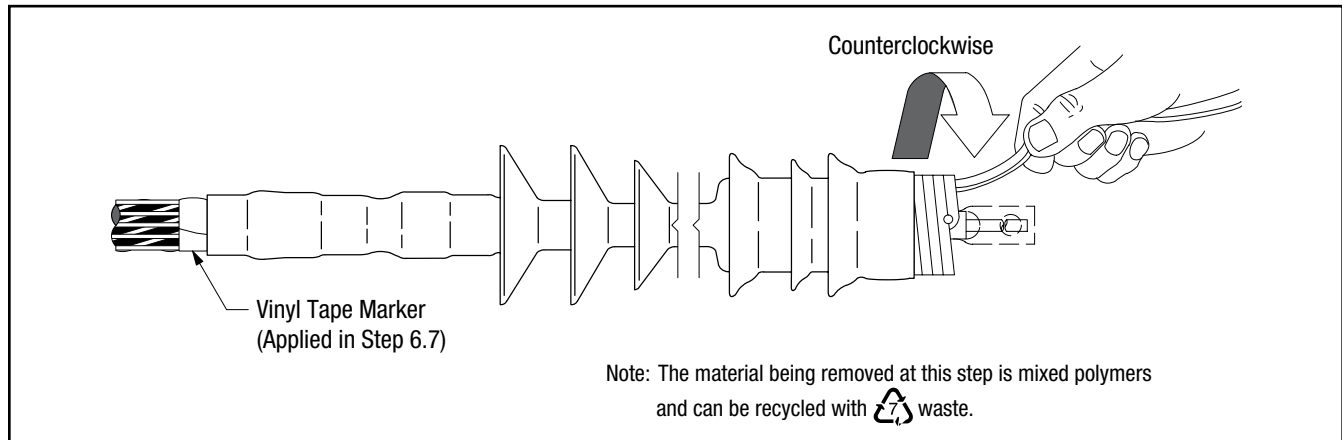

Figure 10
- 9.1 Slide the termination body onto the cable and remove core. Make sure the termination body (not the core) is butted up to the edge of the vinyl tape marker previously applied (Figure 10). Pull the core while unwinding, counterclockwise, starting with the loose end (Figure 10). Be sure to alternate the pulling and unwinding actions (pull-unwind-pull-unwind-etc.) to help prevent the core material from binding up as the core is being removed.